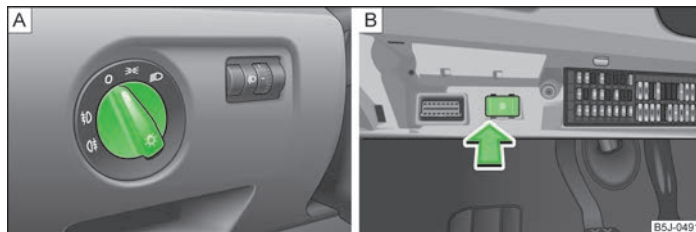

Fig. 22 Dash panel: Light switch/fuse box: Switch for daylight driving lights
On models fitted with **right-hand steering** the position of certain switches differs from that shown in » Fig. 22 on page 38. The symbols which mark the switch positions are identical, however.
- Turn the light switch » Fig. 22 - A to position \Rightarrow .
- Turn the light switch » Fig. 22 - [A] to position 0.
- Turn the light switch into position 0 » Fig. 22 on page 38 - [A].
- Switch on the switch for daylight driving lights » Fig. 22 on page 38 - [B].
- Switch off the switch for daylight driving lights » Fig. 22 on page 38 - [B].
- Turn the light switch to the position Parking light  or Low beam  » Fig. 22 on page 38 - [A].